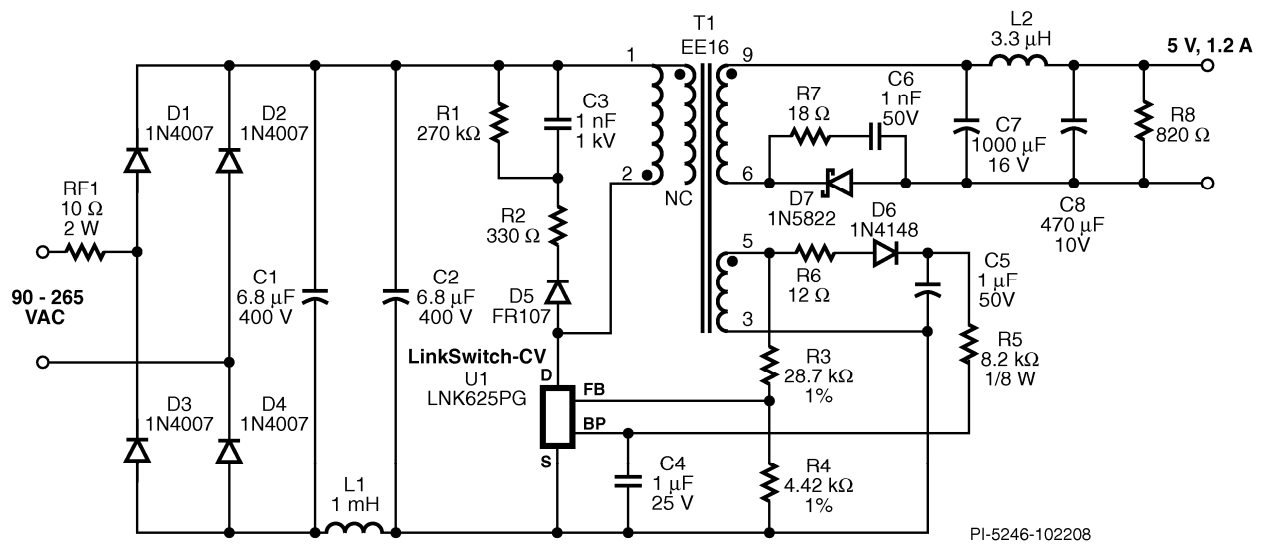

Figure 2 – Schematic
The schematic in Figure 2 shows an adapter design using the LNK625PG that provides very tight constant voltage (CV) performance. The circuit is designed to operate from 90 VAC to 265 VAC input, with an output voltage of 5 V providing a maximum load current of 1.2 A. It consumes very little standby power and uses no Y-Capacitor to meet stringent EMI requirements. The adapter also meets and exceeds both CEC and Energy Star 2.0 regulations.